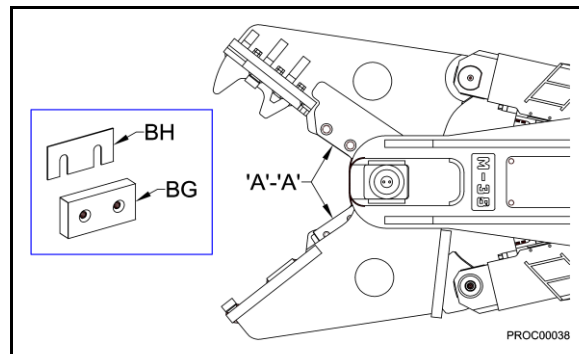

Fig. 1
A blade-to-blade (A-A) clearance of .010" to .040" (0.25 to 1.00 mm) should be maintained for optimum performance. Install shims (BH) under blade (BG) as necessary, see fig. 1.